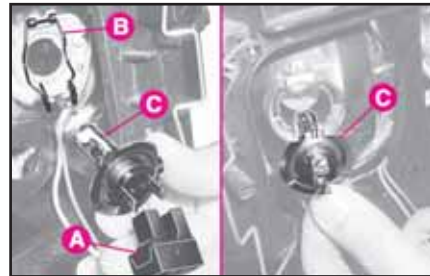

fig. 14
2) Remove the electrical connector **fig. 14-A**.
3) Pull side tabs of the fixing clips **fig. 14-B** remove the bulb holder and the relevant bulb.